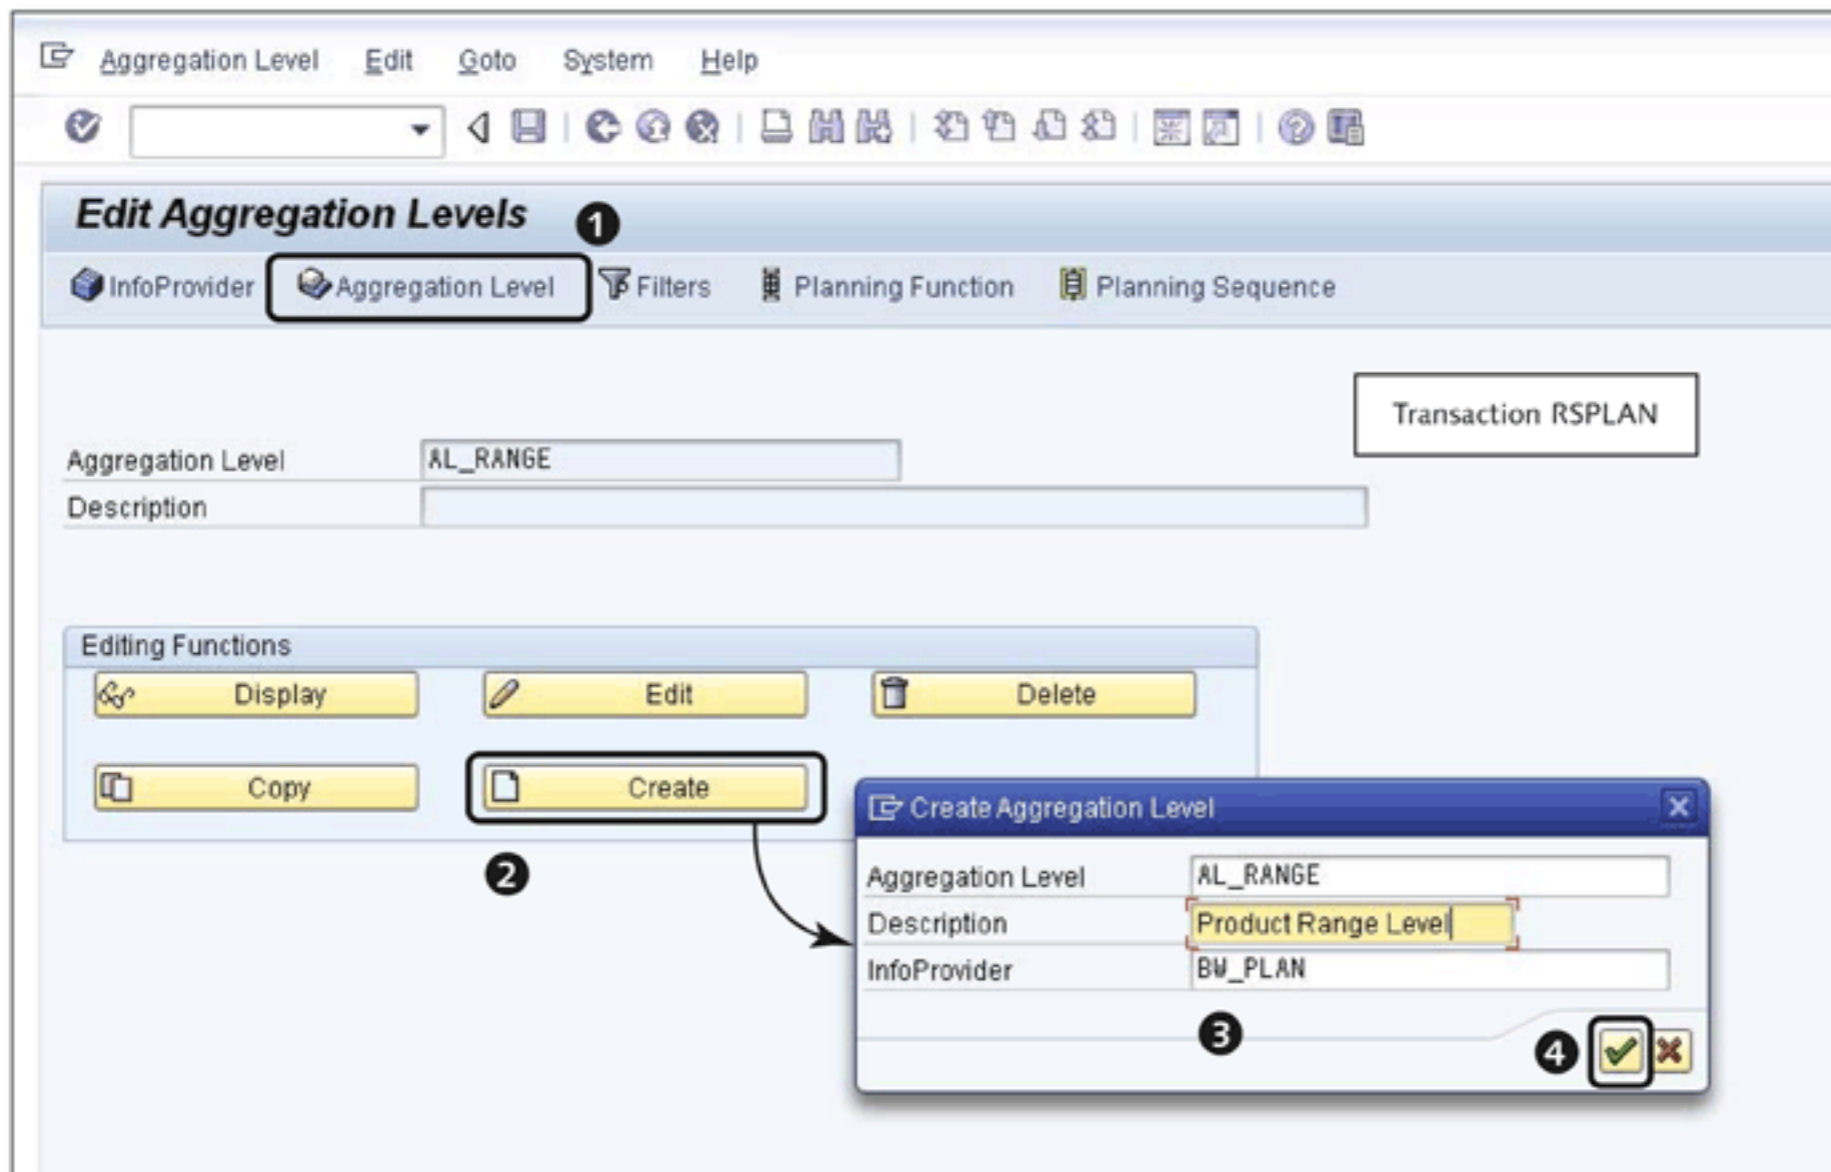

Figure 12.23 Create a New Aggregation Level
Let's explain how to create an aggregation level on a real-time InfoCube. For the example scenario explained earlier in this chapter, the planning is done at two different levels—the product range level and the product level—so we must create these two aggregation levels. Go to the AGGREGATION LEVEL section in Transaction RSPLAN (1 of Figure 12.23), and click on CREATE to create a new aggregation level (2). A pop-up screen appears.
Enter the TECHNICAL NAME and DESCRIPTION of the aggregation level, as shown in 3 of Figure 12.23. Select the InfoProvider over which you want to build the aggregation level (3), and click on OK (4).